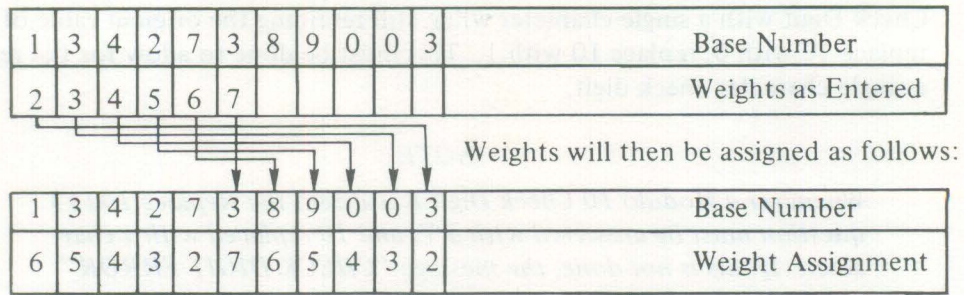

Figure 5-11. Weight Assignment
- Weights – The system allows a check digit field or combination of fields to be of any length specified. To accommodate this feature, a sequence of up to 20 different repeating weights may be specified. The first position entered in the check digit format under weights applies to the "units" position of the base number. The second position applies to the "tens" position, etc. If fewer weights than field positions are entered, the progression will be repeated for the length of the field as illustrated by Figure 5-11.